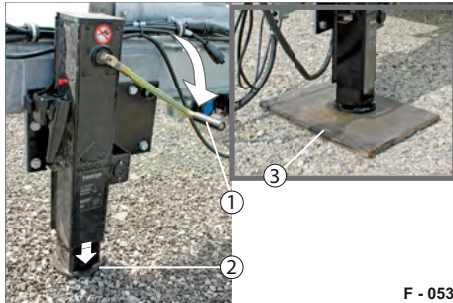

Fig. 52 Swivel support / support position
- Using the hand crank (Fig. 52/1), crank the support foot (Fig. 52/2) fully down to the ground.
If necessary, used a fixed base (Fig. 52/3).